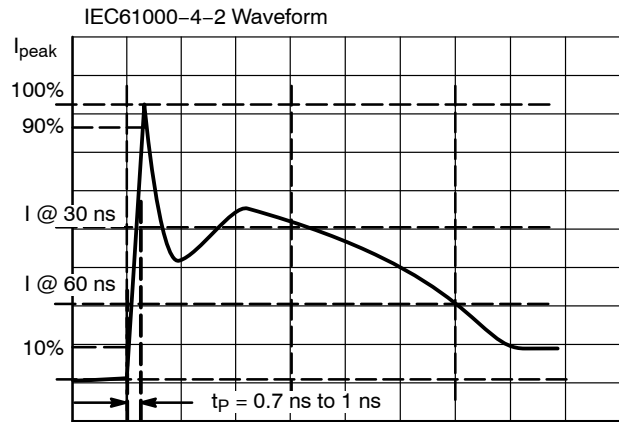

Figure 3. IEC61000-4-2 Spec
5. For test procedure see Figures 3 and 4 and application note AND8307/D.